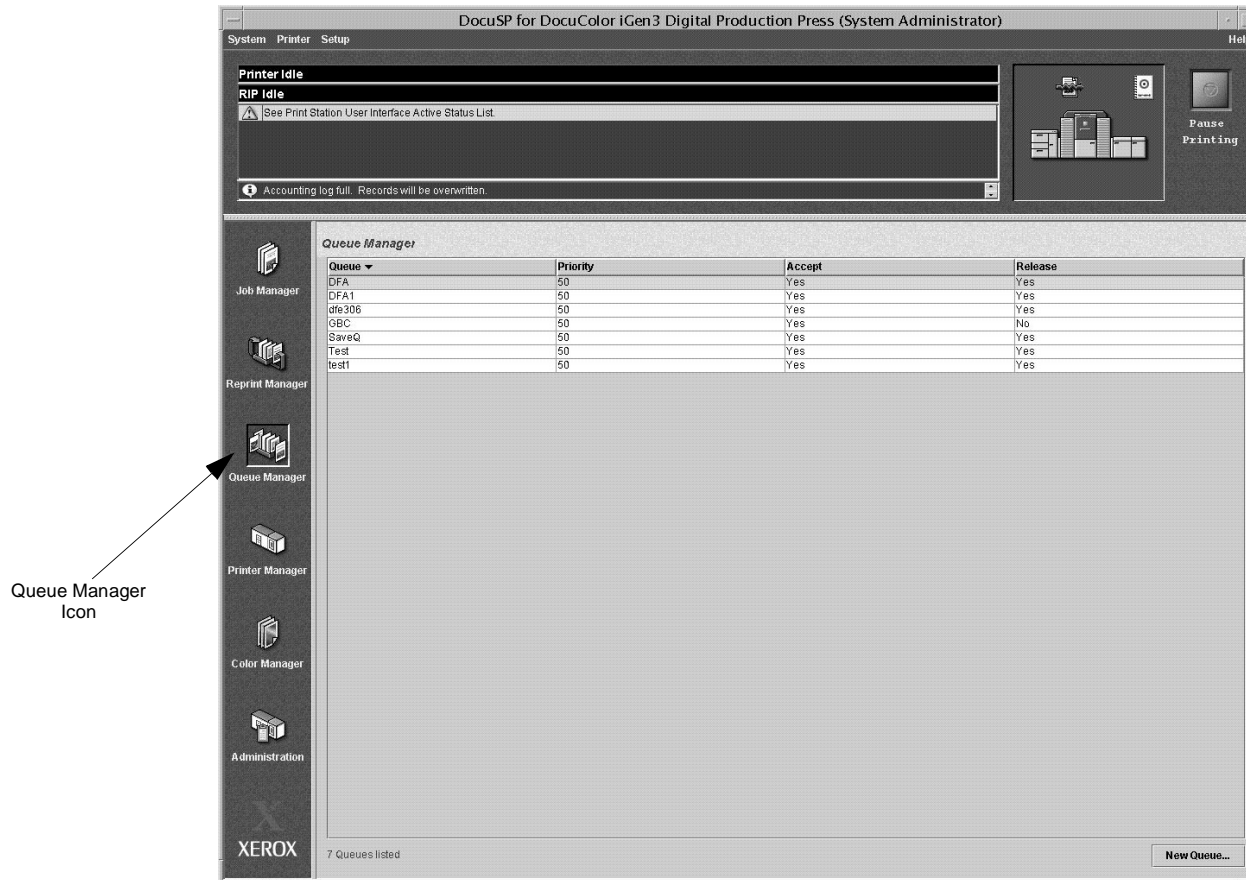

Figure 6-43 The DocuSP Main Window
1. Click the **Queue Manager** Icon from the **DocuSP Main Window**, as shown in Figure 6-43.